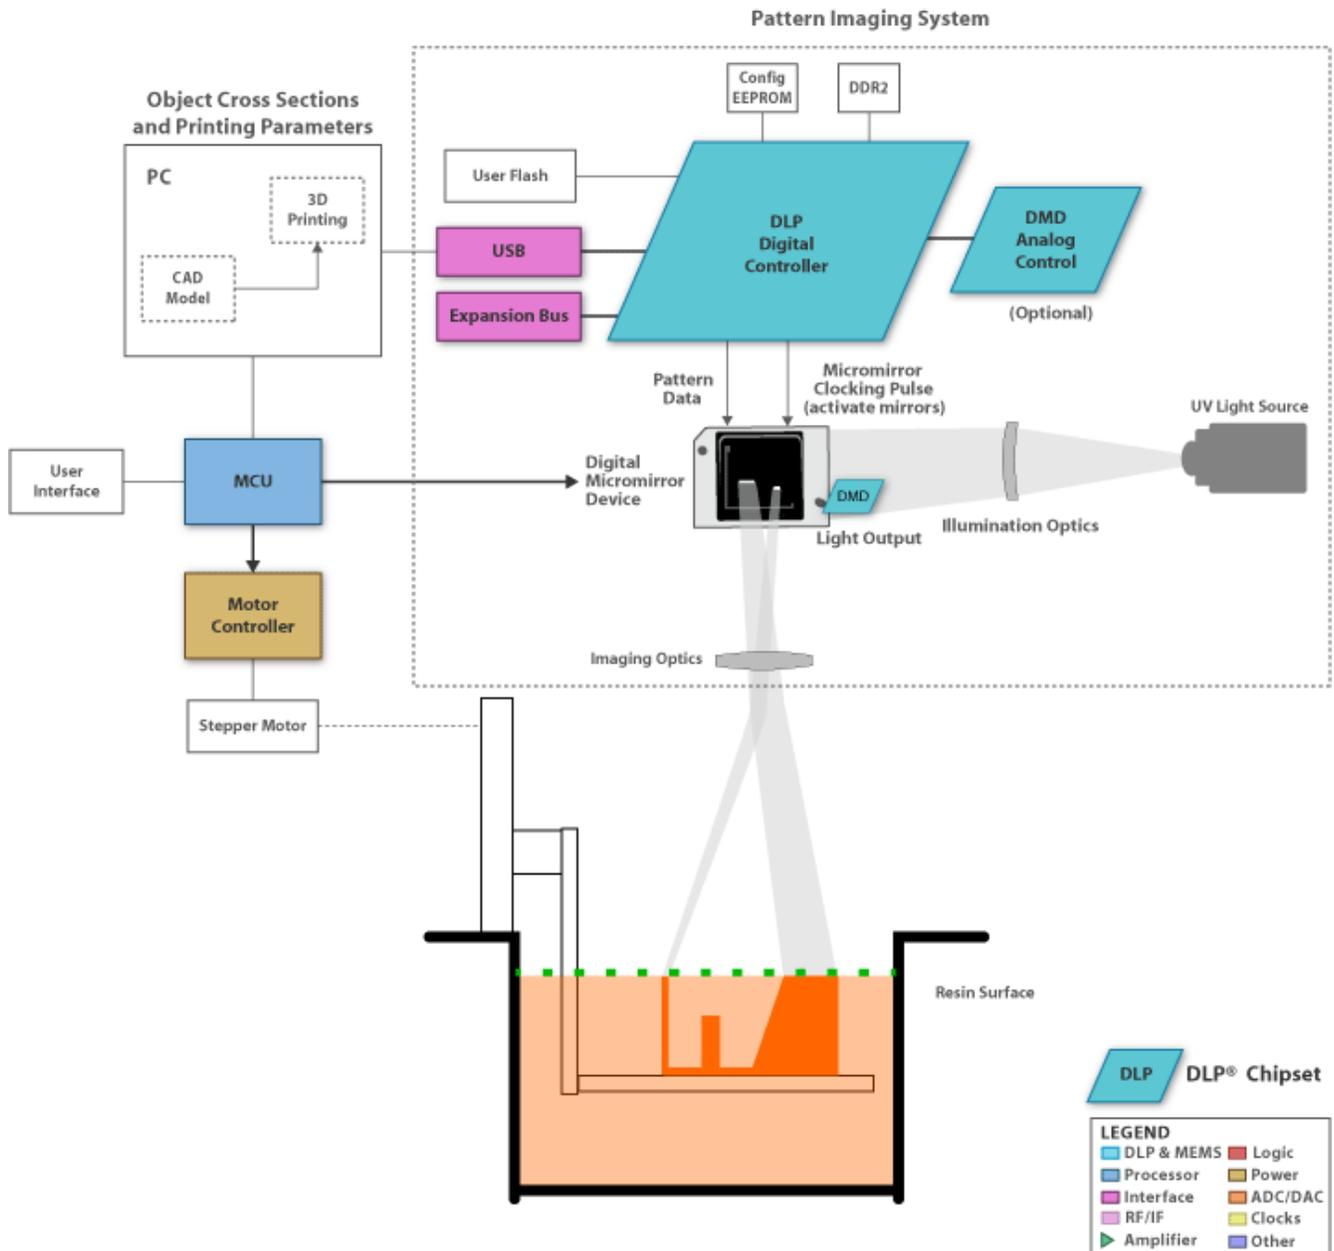

Figure 3. TIDA-00293 DLP Stereolithography System Block Diagram
- Stereolithography (SLA).** This method (example system block diagram TIDA-00293 shown in Figure 3) creates a 3-D object one layer at a time by curing photoreactive resin with an ultraviolet (UV) light source into the shape of the desired 3-D object. After an XY layer of the resin is cured, an elevator platform will descend to allow the next layer to be processed. This technology generally allows for much finer resolution than FDM methods can achieve, since the UV light can be manipulated more precisely than the mechanical system controlling the FDM nozzle. Texas Instruments has been working hard to enable this type of 3-D printing with DLP® technology, and you can find a TI Design reference design for a DLP stereolithography 3-D printer here.